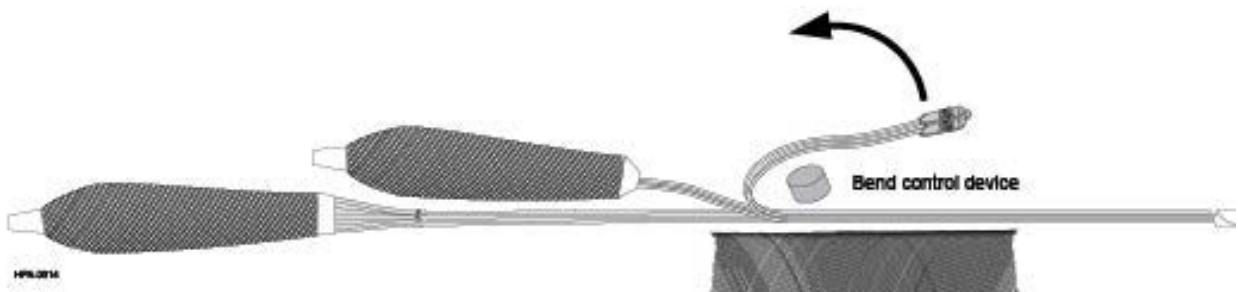

Figure 10 — Mesh Bag Removal
**Step 8:** Starting with the mesh bag closest to the furcation body, remove the tape and mesh to expose the first set of three folded legs (Figure 10). If applicable, unfold the legs from around the bend control device.